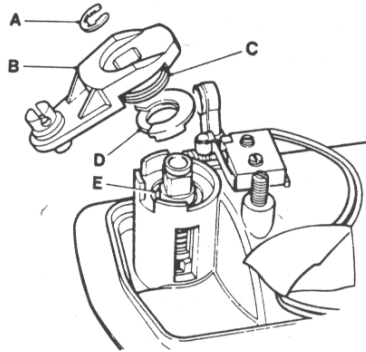

FIG. 3
- .Remove 'C' clip, (fig. 3 A).
- .Remove plastic actuation arm, return spring and spacer washer, (fig. 3 B, C, & D).
- .Remove the circlip which retains the lock barrel into its housing, (Fig. 3 E).